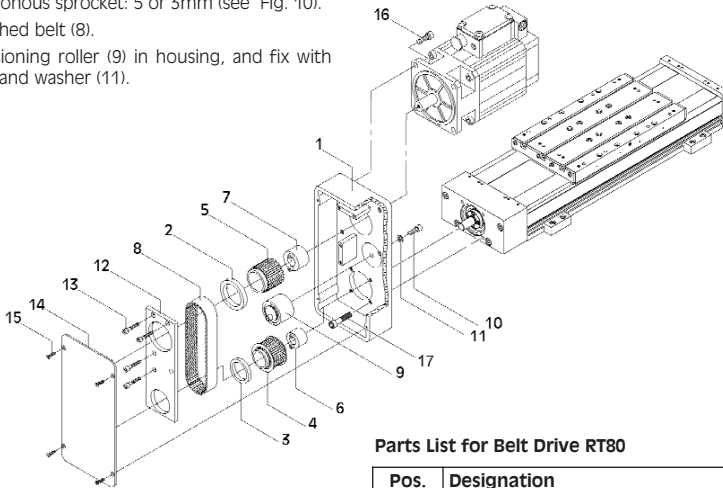

Fig. 7
1. **Fig. 7:** Attach WIESEL® linear drive unit and motor to housing (1).
7. **Fig. 7:** Detach screw (10) from tensioning roller, and tighten tensioning roller anticlockwise with a SW8 hexagonal wrench at 0.5 Nm, and tighten screw (10).
8. Attach cover plate (14) with 4 countersunk screws (15).